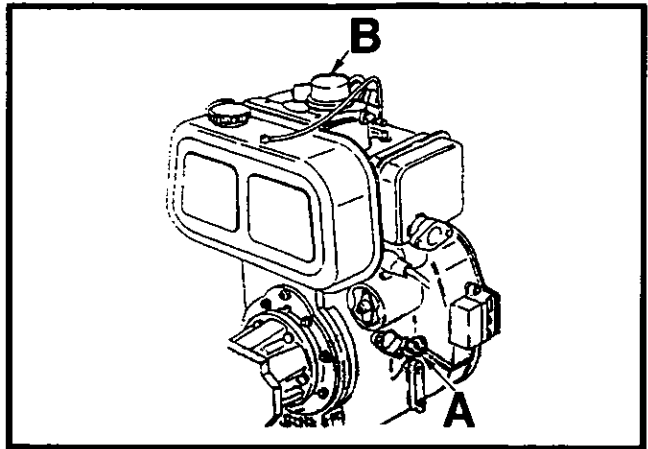

Figure 5-4 Engine Oil Dipstick and Filler
2. Pull out dipstick (A, Figure 5-4) and wipe clean with a lint-free, dry cloth. Push dipstick back into engine.
4. If oil level is low, add oil through the filler (B, Figure 5-4) as specified in Section 8 - Fuel And Lubricant Instructions.